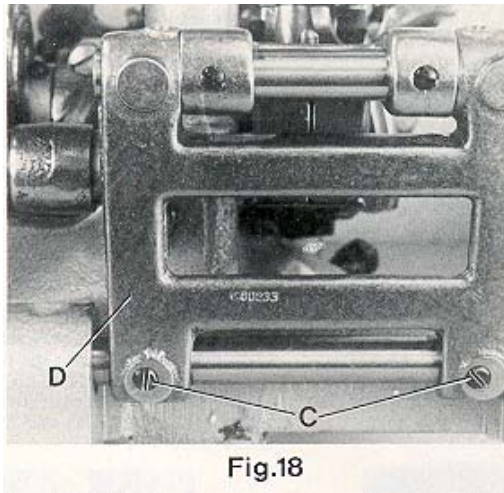

Fig.18
If an adjustment is necessary loosen the two set screws (C, Fig. 18) and move feed rocker (D) to the left or right as required. Retighten set screws.